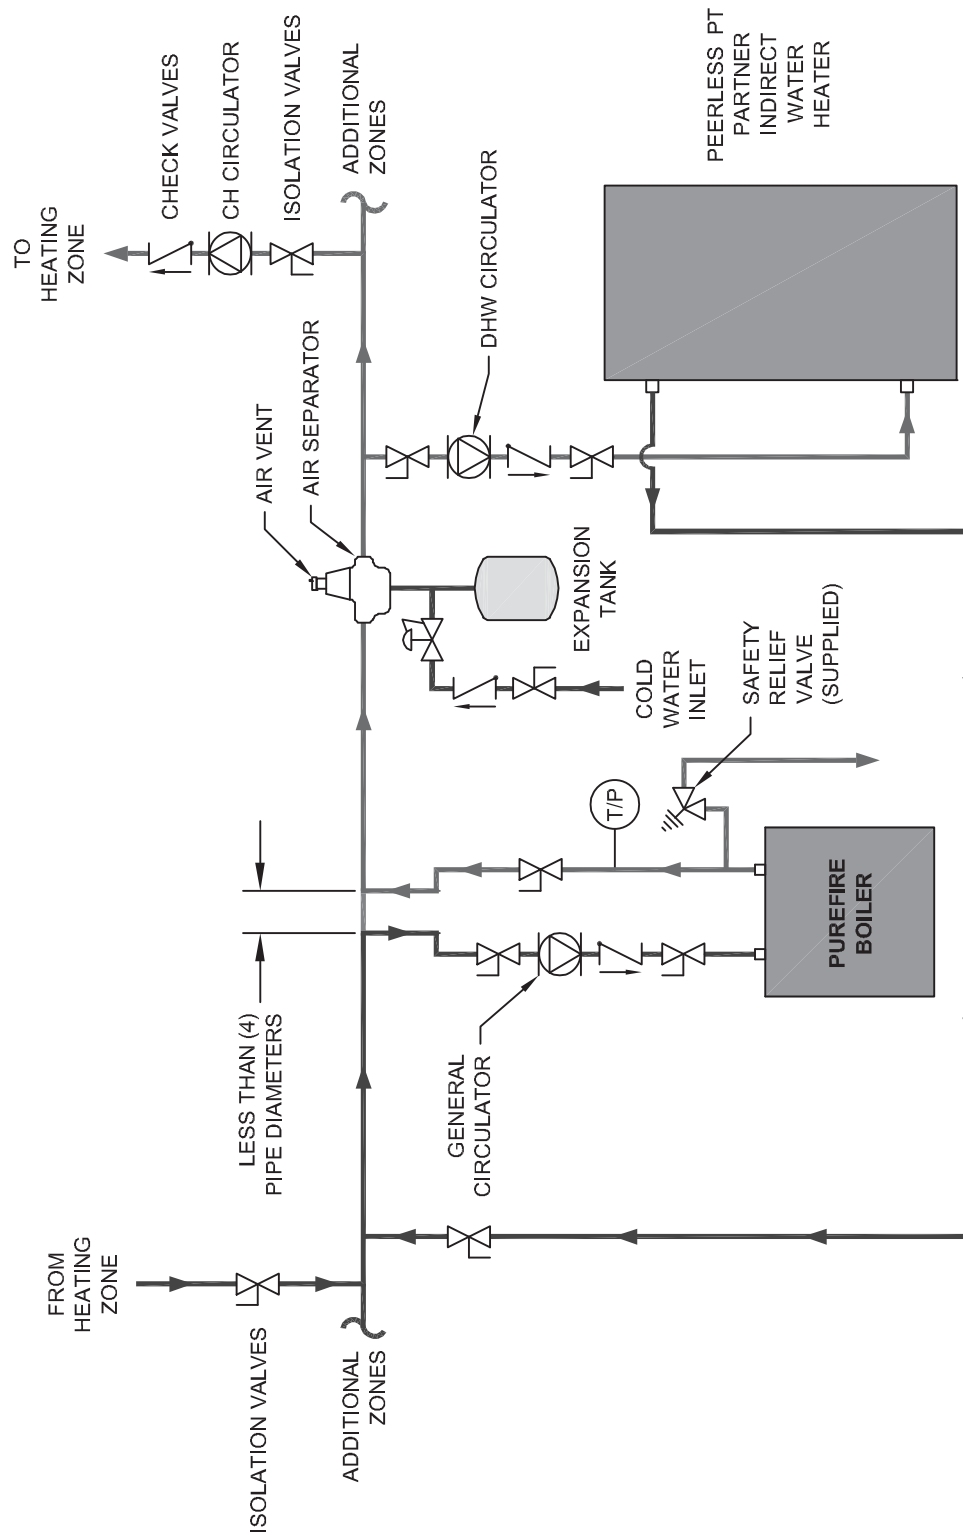

Figure 4.5: Recommended Piping – One Boiler, Primary/Secondary with Two Zones (Zone Circulator)
1. Figure 4.5 shows a single boiler with multiple heating zones. In this case, the DHW zone is piped in parallel to the heating zones on the primary loop.